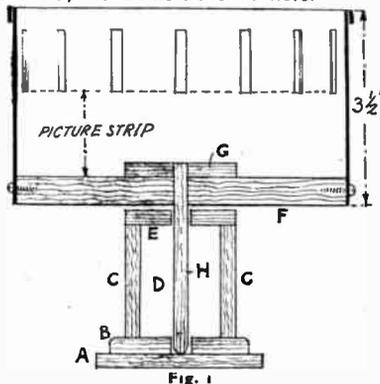

Fig. 1
The first consideration in commencing to make the toy will be the pedestal and base, and this takes the form of a hollow box of four sides, a single flat top and two pieces to form the lower base. In Fig. 4 an exploded view of the seven parts is given. The lower piece (A) in Fig. 1 measures 3 ins. square by  $\frac{1}{4}$  in. thick, piece (B) glued on top of it is  $2\frac{1}{2}$  ins. square and the same in thickness. In the centre of the latter piece there is a hole  $\frac{1}{8}$  in. in diameter to take the end of the centre spindle.